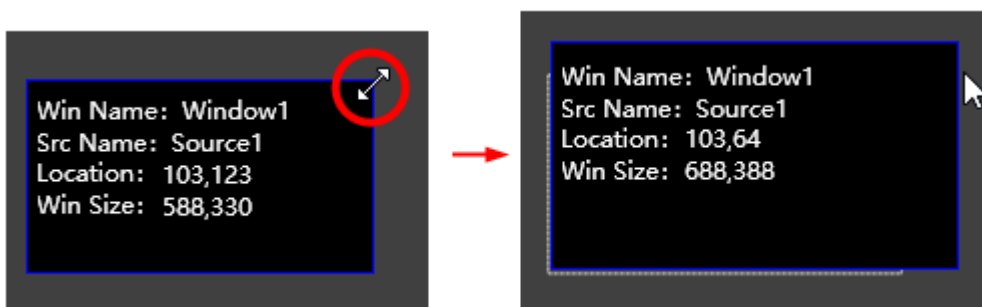

Figure 3.4.46 Stretch the Window
- **Stretch an element:** select an element, and move the mouse cursor to the edge of the window, the cursor will change its shape into a double-headed arrow like this: ,  or , then press the left mouse button down, and drag it to be zoomed in or zoomed out, thus to change the size of the window, as shown in **Figure 3.4.46**: